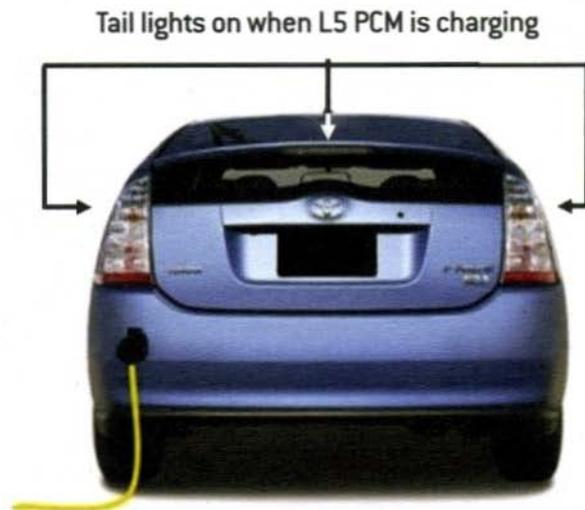

Figure 6 Charging indicators
3. Watch for the tail lights to illuminate for four to five seconds. This indicates a proper connection. During the charge cycle the tail lights remain dimly lit and go entirely dim when the L5 PCM is fully charged as shown in Figure 6.